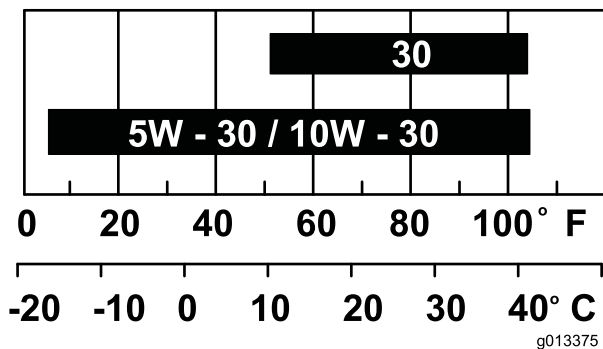

Figure 42
**Note:** Use SAE 10W-30 for general use. You can use the other viscosities shown in the chart when the average temperature in your area is within the indicated range (Figure 42).